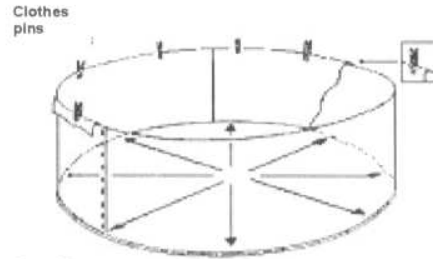

fig. 20
- c) Lift the side of the liner that covers the upper edges of the swimming pool and fasten it to the top of the wall with clothespins (fig. 20). Remove the wrinkles by pulling smoothly outwards and adjust the liner. Do not pull too hard.